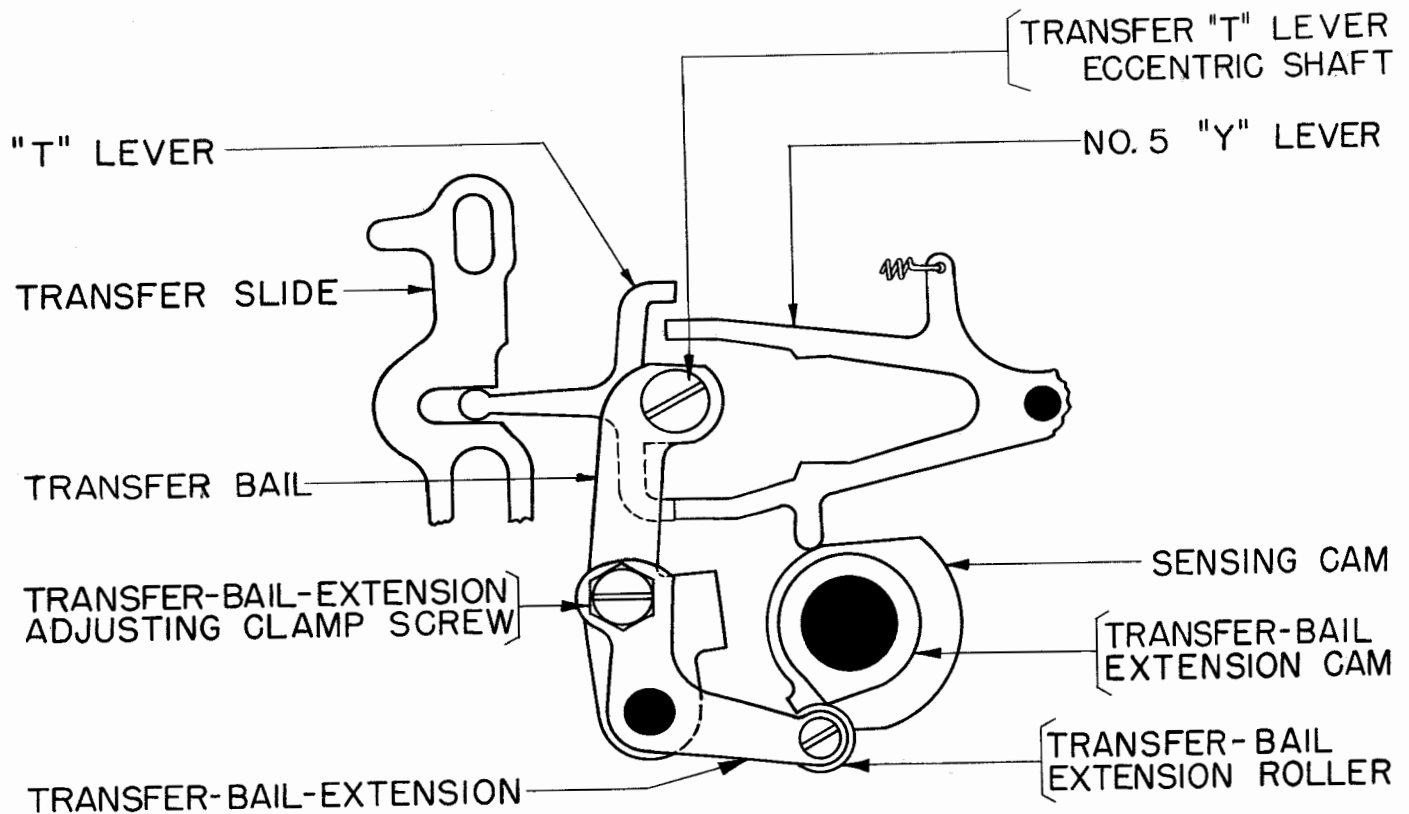

Figure 62
2.130 Transfer T-Lever Eccentric-shaft (Preliminary Adjustment): Loosen the transfer-bail-extension adjusting clamp-screw. With a piece of tape perforated with the Y-code combination inserted in the transmitter so that the Y character will be selected, trip the sensing-shaft clutch and rotate the motor by hand until the transfer-bail-extension roller is on the high part of its cam. Hold the roller against the cam and press the transfer bail to the right, manually, until the transfer slides move against their stops. Do not jam. Under this condition, at least one transfer slide shall be moved upward against its stop and at least one which is moved downward shall also be against its stop. Tighten the transfer-bail-extension clamp-screw. See Figure 62.
- (a) Insert a length of tape perforated with the Y-code combination in the pivoted transmitter, trip the sensing clutch, and rotate the motor by hand until the transfer-bail-extension roller is on the high part of its cam and the Y combination is set up on the Y-levers. There shall be some clearance, not more than 0.006 inch, between the lower prongs of the No. 1 (rear) and the No. 5 (front) T-levers and Y-levers when the play in the transfer slides is taken up in a direction to make this clearance a maximum. See Figure 62.
To Gauge: Rotate the sensing-contact levers out of the way and apply the push end of the scale to one of the spacers on the transfer T-lever eccentric-shaft and push horizontally to the right. See Figure 62.